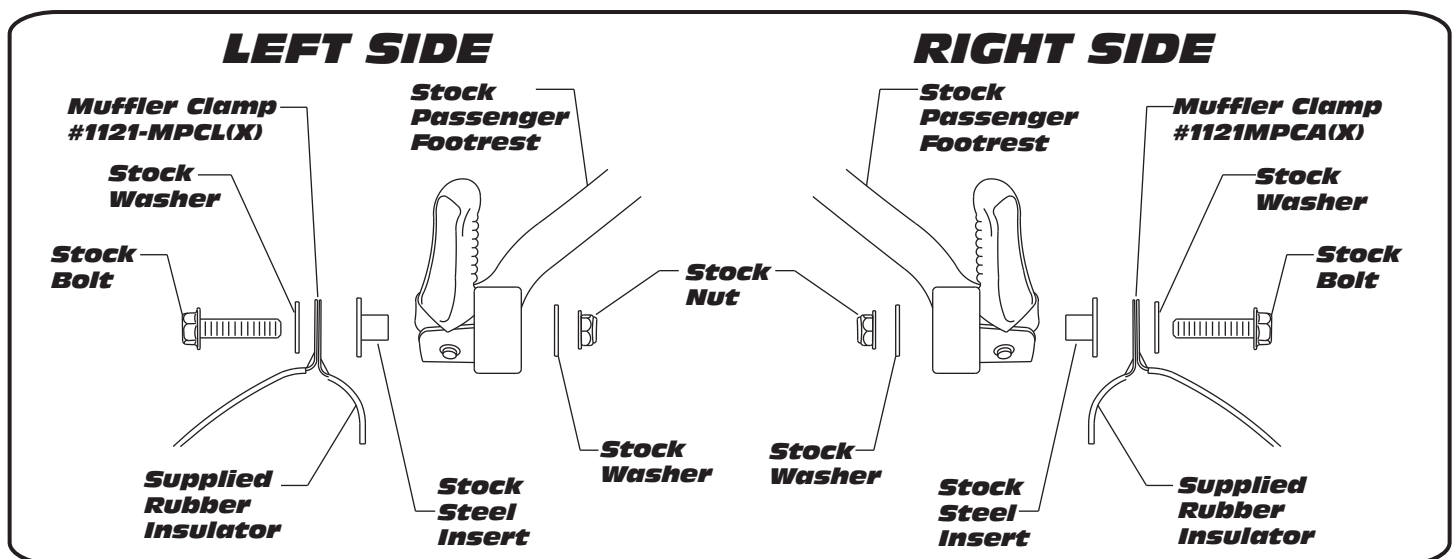

Fig. 1
- 5 Bolt mufflers to the stock muffler mount locations using the stock muffler mount hardware (see Fig. 1).